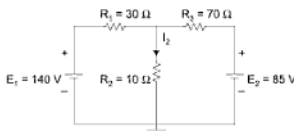

Fig. A1-4
- (c) In the circuit of Fig. A1-4, find the branch current I_2 which flows through R_2 , when R_2 has the following values: